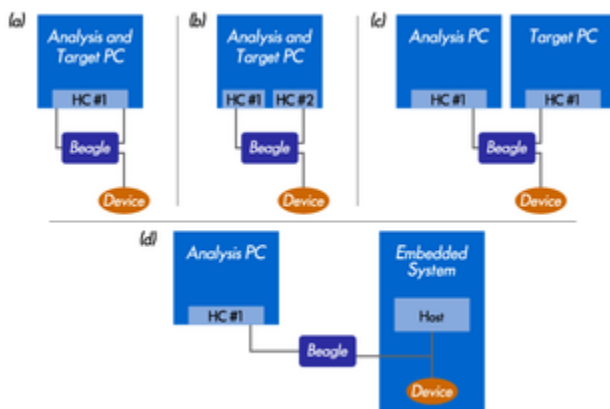

Figure 40 : *Beagle USB Protocol Analyzer Connections*
The Beagle USB analyzer's analysis port must be connected to the analysis computer through a USB cable. The Capture side of the Beagle analyzer must be placed on the USB to be monitored. Normally, this is accomplished by placing the Beagle analyzer in-line between the USB device and host being monitored. In other words, the bus to be monitored goes through the Beagle USB analyzer. To properly accomplish this connection, connect the target host to the USB-B receptacle on the Capture side of the Beagle USB analyzer, and connect the target device to the USB-A receptacle on the Capture side of the Beagle USB analyzer. See Section 2.2.1 for more details. This is the setup illustrated in panels a-c of Figure 40.
In some cases, the target bus is fully internal to an embedded system. If so, it is simply necessary to tap off the lines through the use of a parallel connector. One can plug in the tapped off cable into either the Target host or Target device port of the analyzer; both are equivalent. This is illustrated in Figure 40 d.
described in Section 1.1.2, comes into play. Because all Beagle analyzers use high-speed USB communication, this issue is only pertinent when using one of the high-speed capable protocol analyzers (such as the Beagle USB 480 Protocol Analyzer or the Beagle USB 5000 SuperSpeed Protocol Analyzers) to monitor a high-speed device. If the Beagle analyzer's analysis port is connected to the same host controller as a high-speed device that it is monitoring (Figure 40 a) then the Beagle analyzer will end up sniffing some of its own traffic. This is especially true if the Beagle analyzer is configured to stream back bus traffic to the PC in real time! This will be seen in the capture as many IN packets to the Beagle analyzer's device address with occasional downstream handshake packets.
- One method for dealing with this problem is install another USB host controller to the computer and connect one host controller to the analysis port of the Beagle analyzer and use the other host controller to communicate with the host and device under test (Figure 40 b). Downstream USB packets are only broadcast on USB links on the same host controller, so this technique is another way to ensure that the Beagle analyzer's traffic is not seen on the capture side of the analyzer. The disadvantage is that the PC must spend processing time for communicating both with the target device as well as the Beagle analyzer.
- The preferred method is to connect separate computers to the analysis port and to the target host port of the Beagle analyzer (Figure 40 c). This puts the analysis end of the Beagle analyzer on a different bus, ensuring that its traffic is not seen on the capture side of the analyzer. Furthermore, the analysis PC can have full resources to process the incoming data, and the test PC will not be encumbered by the analysis software.